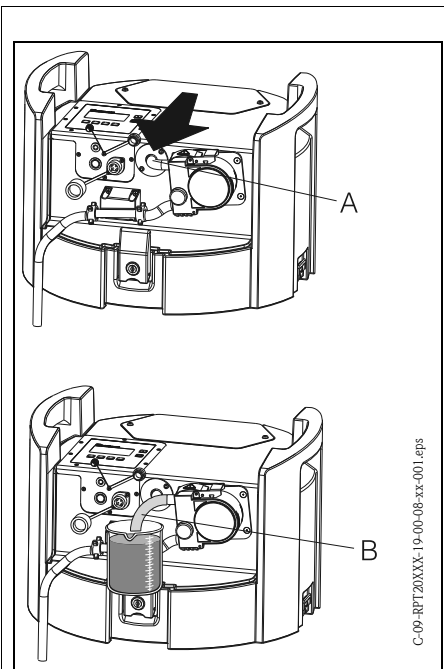

Fig. 18: Calibrating sample volume
3. Remove the already installed pump hose from the hose feeder (=> Fig. 18, pos. A) and feed it into the measurement beaker (=> Fig. 18, pos. B).
13. Replace the pump hose into the hose feeder until it hits the end stop (=> Fig. 18, pos. A).